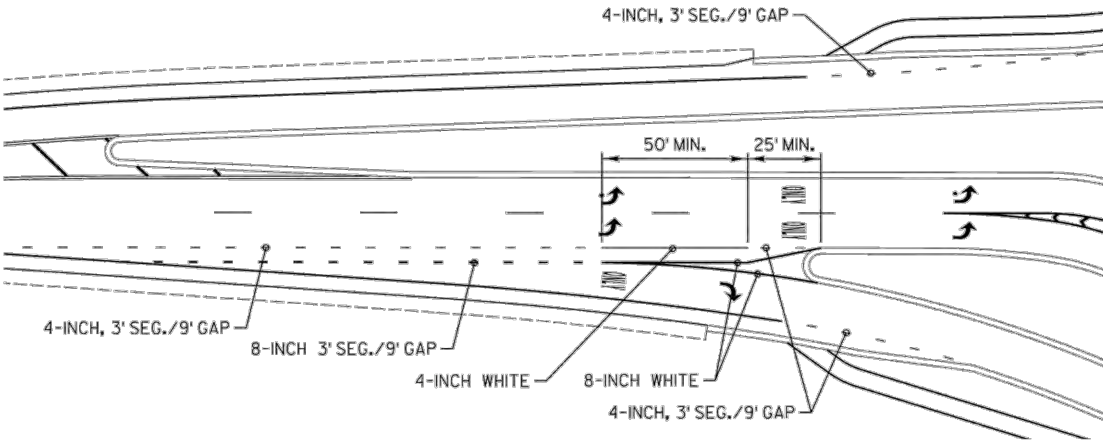

Figure 35.6 Bike Lane Roundabout Marking
- 18. When required, bike lane markings should be placed as per Figure 35.6.
- Bike lane marking within the circulatory roadway is not permitted on any roundabouts. Refer to Figure 35.6 for Bike Lane markings on roundabout approaches.